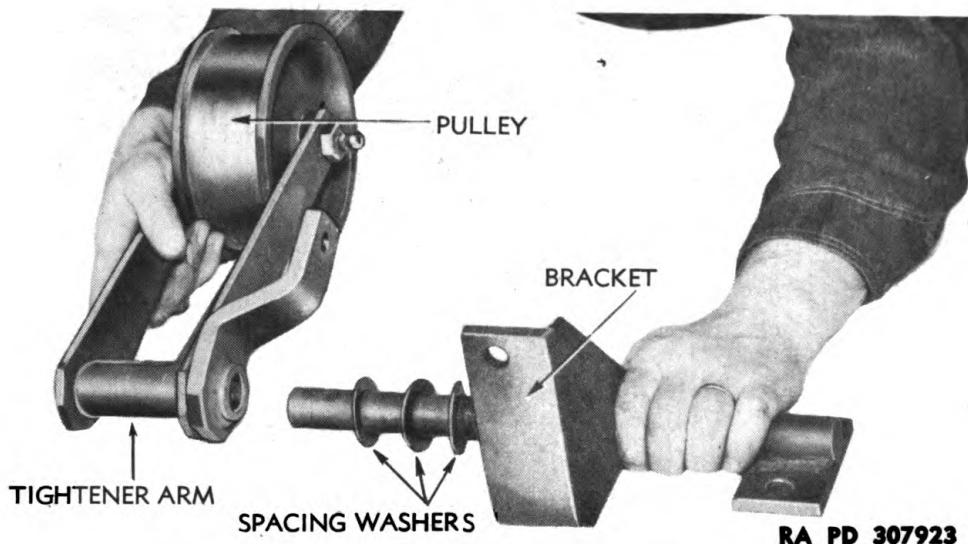
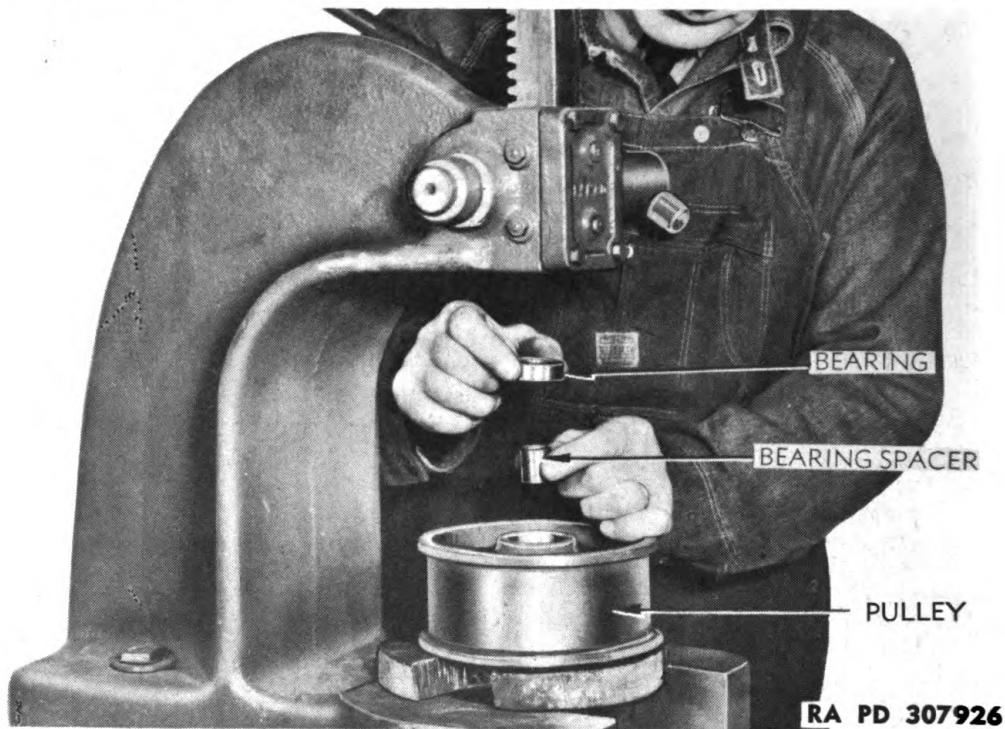

Figure 116 — Removing Tightener Arm From Bracket
Figure 119 — Installing Inner Spacers and Second Bearing
b. **Disassembly of Tightener.** Pull cotter pin and slide the two outer flat washers, tightener arm, and three inner spacing washers off pivot shaft (fig. 116). Remove lubrication fitting from end of pulley shaft. Pull cotter pin and remove slotted nut from shaft, then drive, or press, shaft, out of tightener arm and pulley. Slip spacers out of ends of pulley hub, then, using pilot bearing puller as in figure 123, pull bearings and oil seals from pulley. Remove inner bearing spacer.
(lip of seal towards end of hub). Turn pulley over and drop inner bearing spacer (0.908 inch long) into hub against installed bearing and press second bearing into hub against spacer (fig. 119). Align spacer with bearings at this time. Press second oil seal into hub in same manner as seal in opposite end. Set outer spacers in place by pushing one through each oil seal, using care not to damage or double lips of seals. Hold pulley assembly and tightener arm as shown in figure 120 and tap shaft through arm and pulley. Install and tighten slotted nut on end of shaft. Secure nut with cotter pin. Screw lubrication fitting into end of shaft. Slip three flat spacing washers onto pivot shaft of bracket, then slide tightener arm onto shaft as shown in figure 116. Place two more spacing washers on shaft and install cotter pin in end of shaft. With one nut on adjusting rod, insert end of
tightener arm onto pivot pin in bracket as shown in figure 116 and secure with washer and cotter pin. Install adjusting rod in bracket as shown in figure 121 and connect yoke to tightener arm with yoke pin and cotter pin. Screw lubricating tube fitting into tightener arm and connect tube to fitting. Fill pulley with lubricant.